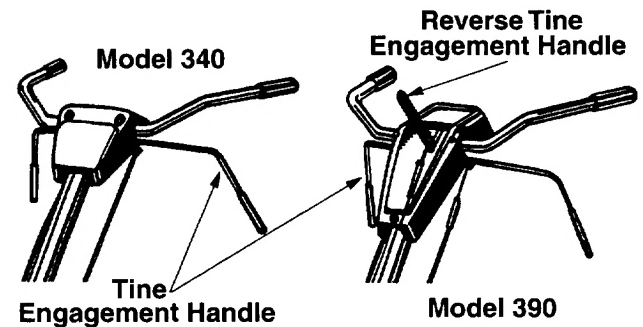

Figure 5.
3. With tine engagement handle in neutral (released) as shown in figure 5, pull the starter rope several times. **The tines should not turn.** If they turn forward, loosen the hex nut on the forward cable (underneath the handle assembly). If they turn toward the rear (model 390 only), loosen the hex nut on the reverse cable (above the handle assembly). Unthread the rod from the cable 2 or 3 turns. Retighten the hex nut, and check again for correct adjustment.
The forward tine engagement handle is located beneath the tiller handle. (See Figure 5) Squeezing the handle up against the tiller handle engages the tines. Release the handle to stop the tines.
The reverse tine drive clutch lever is located on top of the handle panel. (See Figure 5) Pull the lever to the rear to move the tines in reverse. Release the lever to stop the reverse tine drive.
2. Make certain all controls are in the neutral position (released). (See Figure 5)